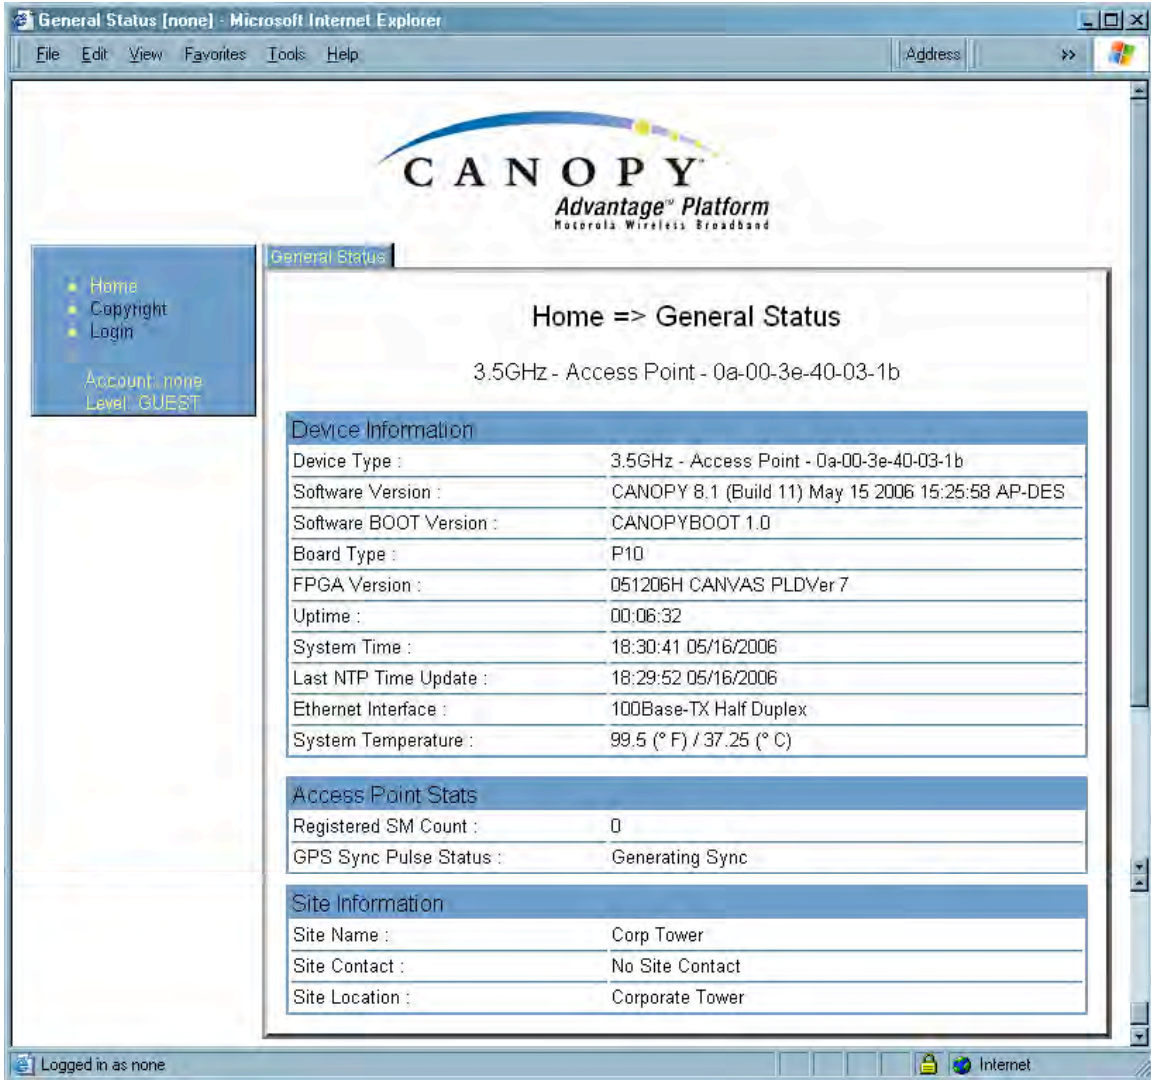

Figure 144: General Status tab view for GUEST-level account
- **GUEST**, who has no write permissions and only a limited view of General Status tab, as shown in Figure 144, and can log in as a user.
After a password has been set for any ADMINISTRATOR-level account, initial access to the module GUI opens the view of GUEST level (Figure 144).